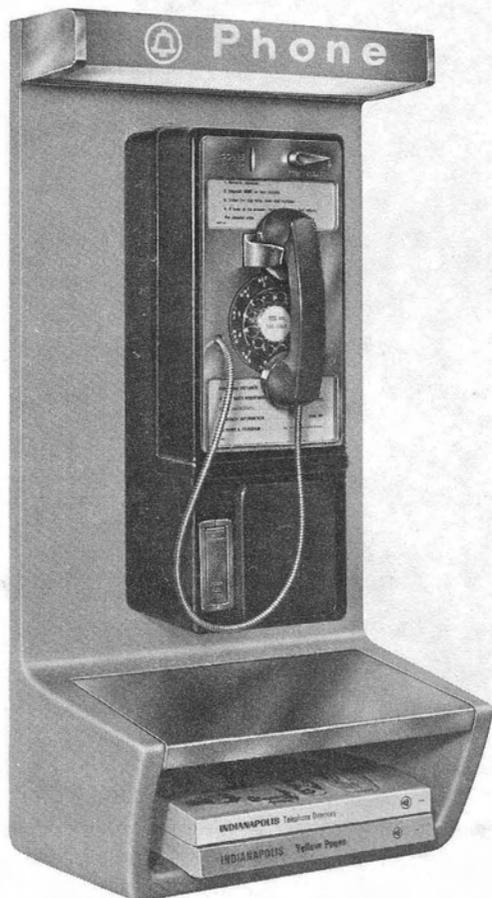
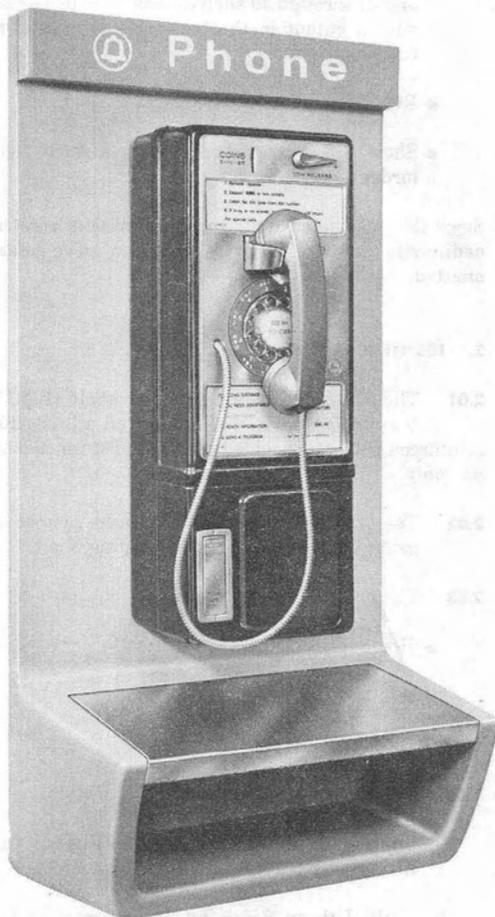
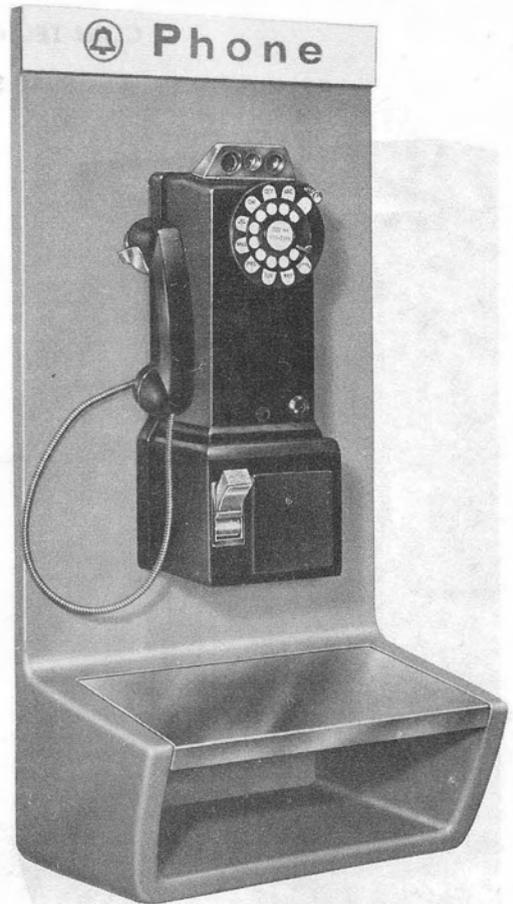

Fig. 1—KS-19945, List 1 Coin Telephone Shelf With 1CI Coin Telephone Set
Fig. 2—KS-19945, List 3 Coin Telephone Shelf With 1CI Coin Telephone Set
Fig. 3—KS-19945, List 4 Coin Telephone Shelf With 236G Coin Collector
2.01 The KS-19945 coin telephone shelf (Fig. 1 through 5) is a wall mounted Fiberglas reinforced polyester molded unit intended for indoor use only.
2.05 The shelf is designed for a KS-19681, List 9 or List 10 illuminated sign (Fig. 1) or a plastic nonilluminated sign (Fig. 2 and 3).
2.06 The shelf will accept a 1A/1C/1E-type coin telephone set (Fig. 1) or a 236G coin collector (Fig. 3). No provisions are made for using a